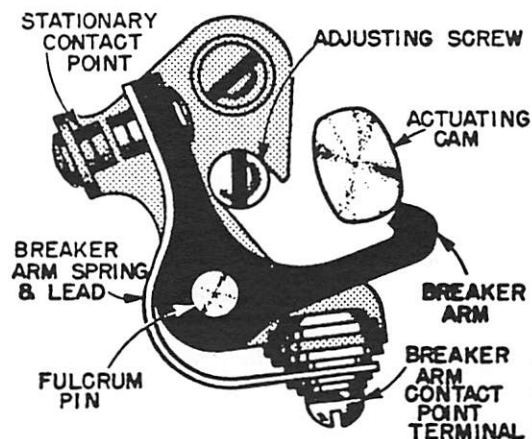

FIGURE 9
4. Breaker Assembly. The breaker assembly consists of a pair of tungsten points mounted on brackets. (See Figure 9.) One of the brackets is stationary and the other a movable breaker spring assembly.